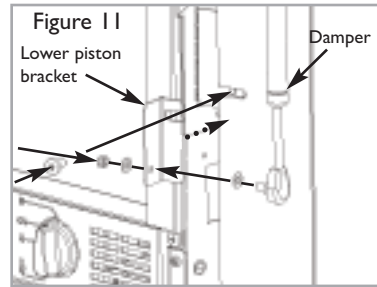

Figure 11
1) Ensure that the piston portion of the damper is positioned as shown in figure 11. Remove the Philips screw securing the frame, and fit the lower piston bracket to the frame and fully re-tighten the screw.